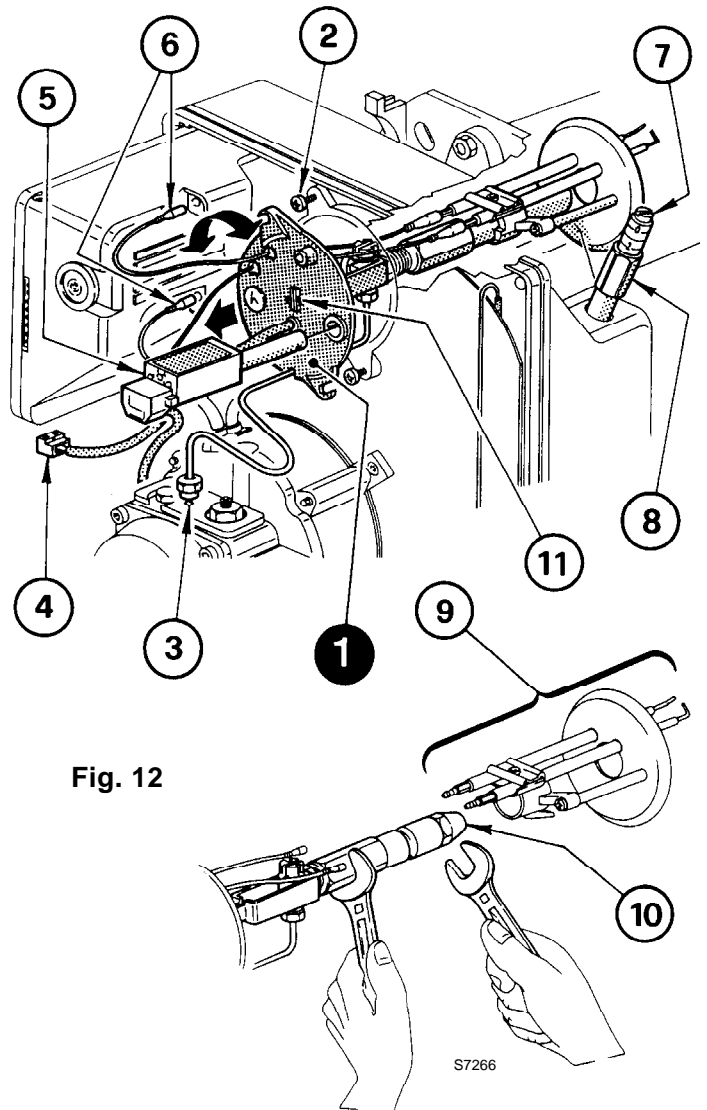

Fig. 12
A Fig. 12 –Remove nozzle-holder assembly (1) after loosening screws (2) and nut (3), remove the small cables (6) from the control box, the socket (4) and the flame detector (5).
(See fig. 12)